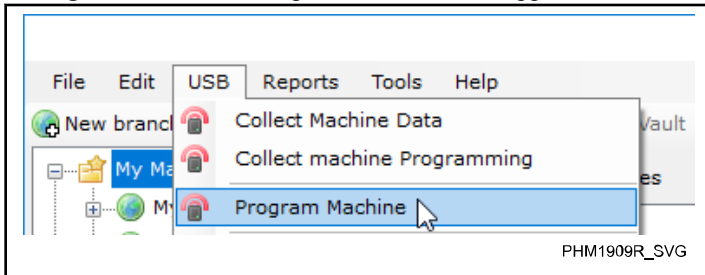

Figure 82
2. From the "USB" menu, click **Program Machine**. Refer to *Figure 82*. The "Filter preset list" window appears.